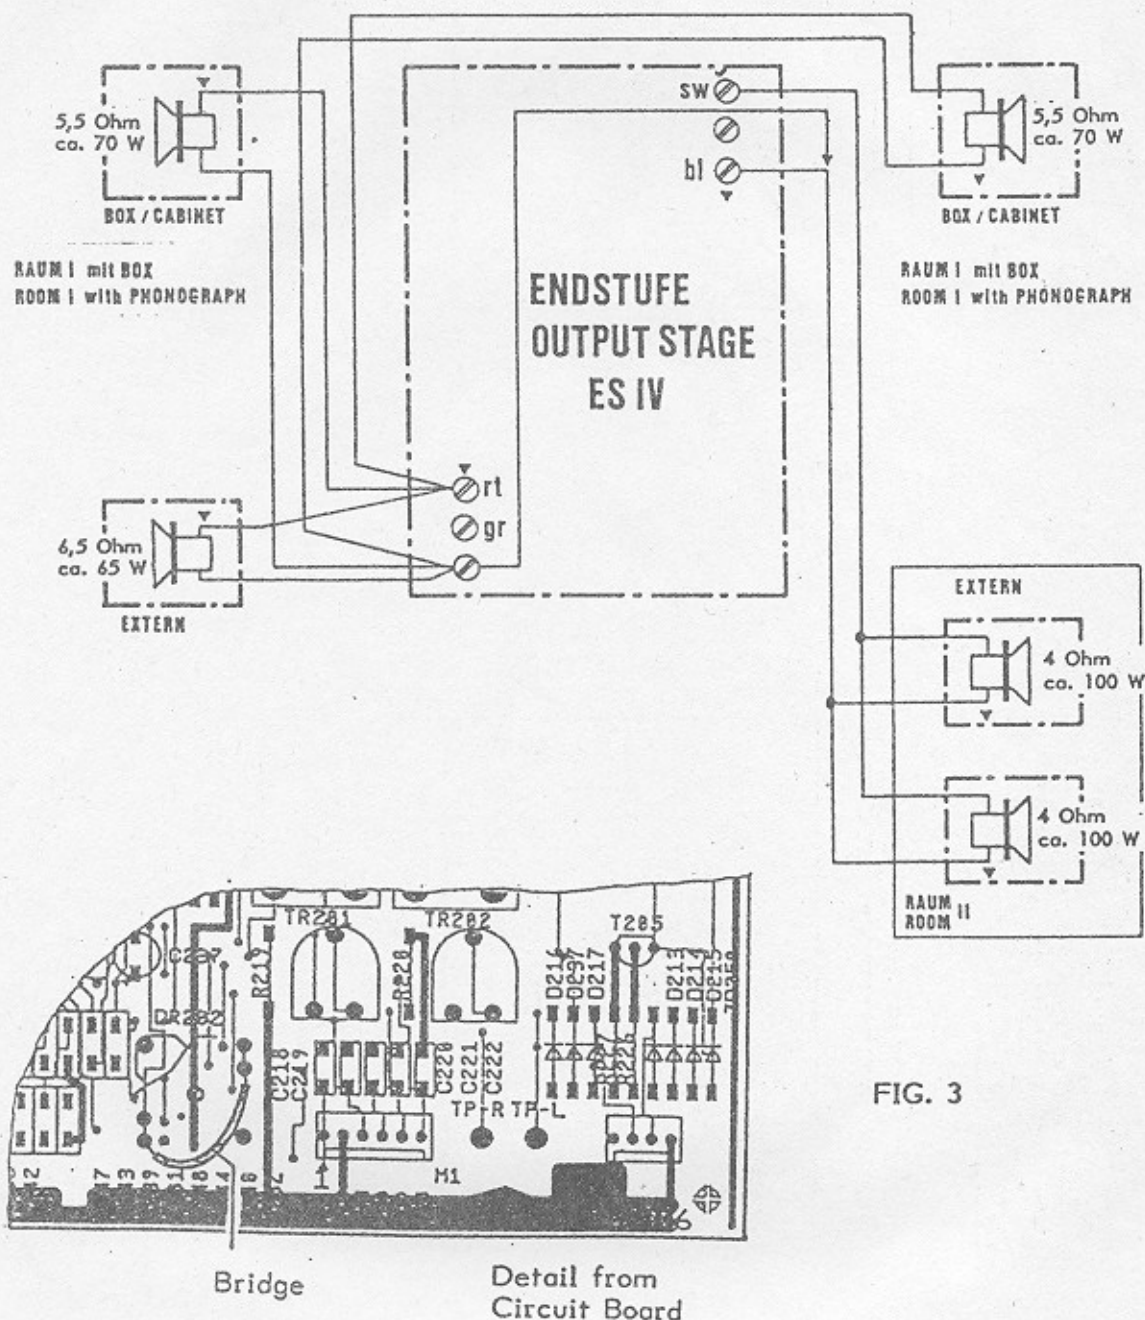

FIG. 3
**Mono mode;** sound system for separate rooms; see Fig. 3.